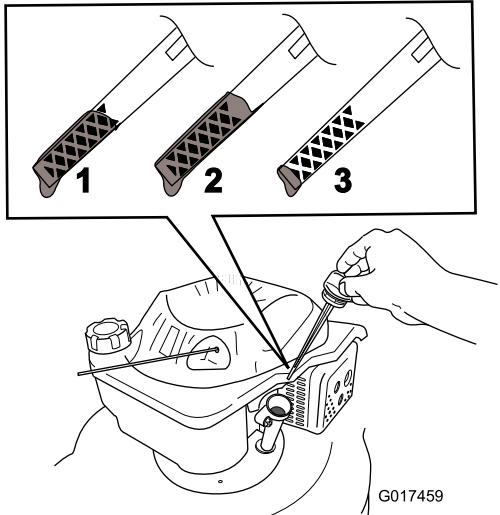

Figure 10
5. To determine the proper oil level on the dipstick, refer to Figure 10).
**Note:** Fill the engine crankcase with oil until the dipstick indicates that the engine oil level is correct as shown in Figure 10. If you overfill the engine with oil, remove the excess oil as directed in Changing the Engine Oil.